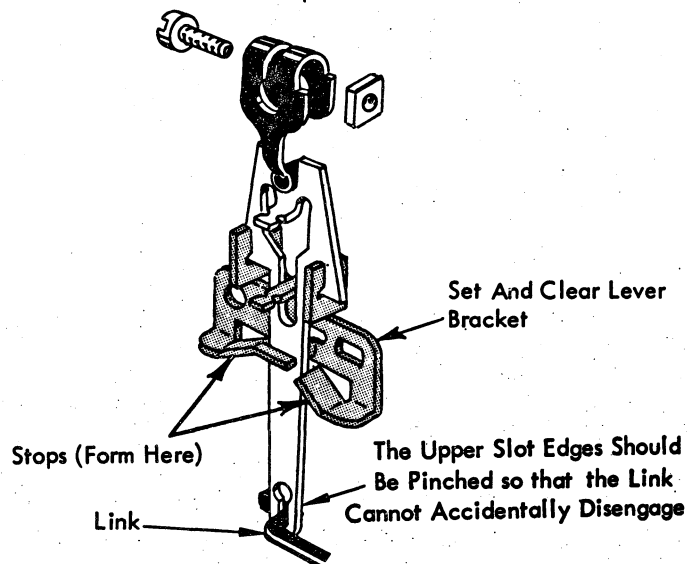

FIGURE 227. Set And Clear Arm Stops
3. Set and Clear Arm Stops - For the stop lugs on the set and clear lever bracket (Fig. 227) so that they limit the movement of the arm just as the tab stop fully reaches its set or cleared position. Also, form the extension on the rear stop lug so the tab set and clear arm cannot pivot sideways out of engagement with the tab rack bellcrank.